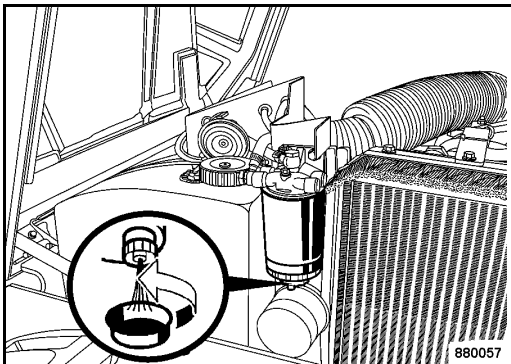

Fig. 125
- Slacken the drain plug (Fig. 125) for a few turns and catch running out fuel / water.